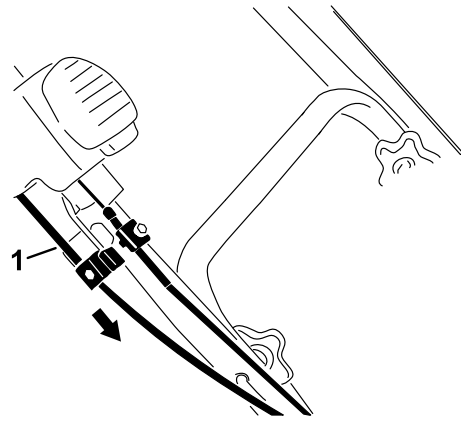

Figure 37
- Hold the discharge chute in the straight-ahead position, pull the lower cable casing downward until you remove the slack in the cable, and tighten the screw on the lower cable clamp securely (Figure 37).